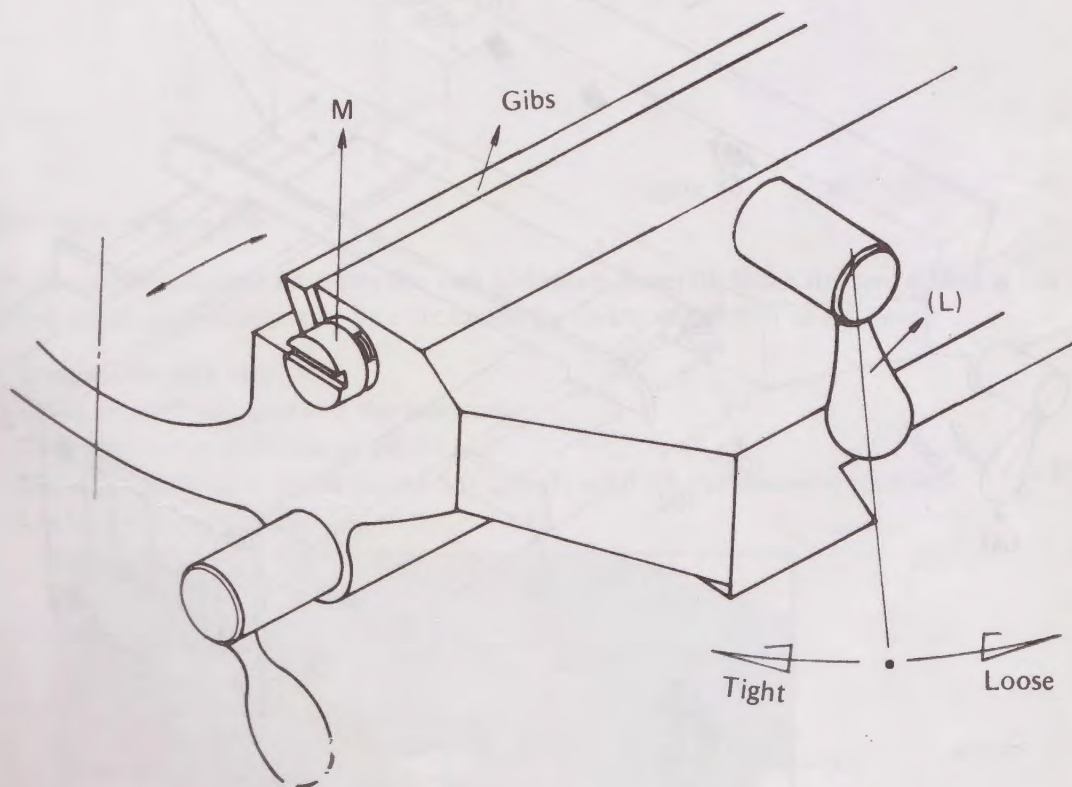

Figure 32
A. Adjustment of Work Table gibs (Vide Figure 32):